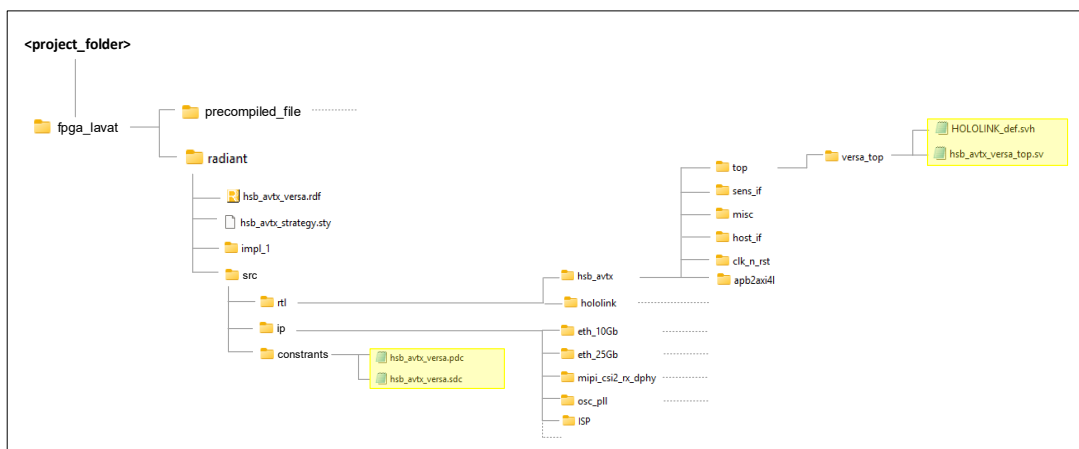

Figure 2.1. Directory Structure
Figure 2.1 illustrates the directory structure of the reference design.
**Note:** When customizing your reference design, you must modify the files shown in Figure 2.1.